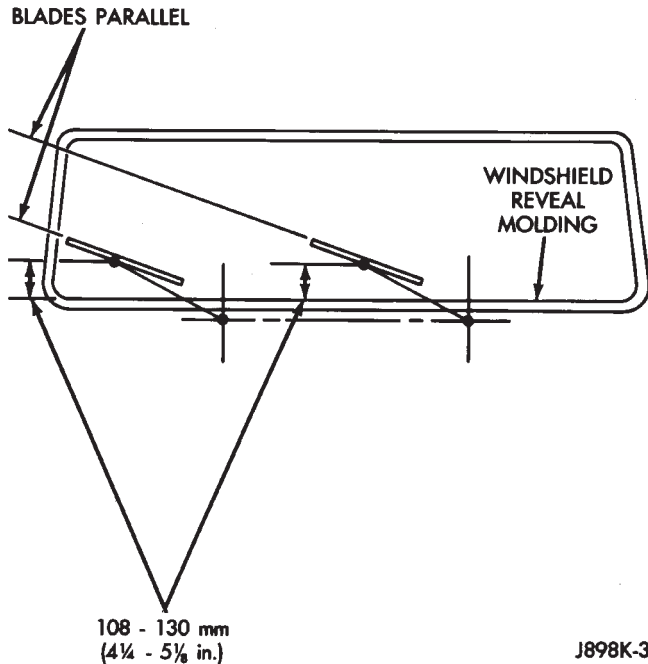

Fig. 3 Wiper Arm Positioning
- (3) Grasp the wiper arm above the pivot nut.
- (4) Pull and remove the wiper arm assembly.
- (5) To install, push the wiper arm over the pivot shaft. Be sure the pivot shaft is in the park position and the wiper arm is positioned correctly on the windshield (Fig. 3).
(9) Turn wipers on to allow motor to cycle to park position.
(10) Install left and right wiper arms (Fig. 3).
(11) Install necessary top components on windshield frame.